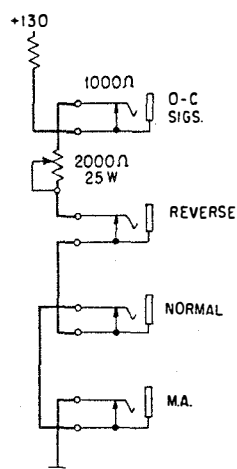

Fig. 11 - Dummy Loop
4.12 Connect a source of undistorted test signals to a dummy loop. The 1A and 100A test sets provide 5-element 60-, 75-, or 100-speed signals, and the 1B set provides 8-element 100-speed signals. Use the 2P31A cord. See Fig. 11 and 17. Insert the 359A plug (shorter one) into the INPUT jack of the 164C3 or 164C4 set and then insert the 347A plug into the NORMAL jack of the dummy circuit. The polarity of the current in Fig. 11 is such that the NOR-REV switch should be set at NOR. If other circuit arrangements are used, set the NOR-REV switch on NOR if the voltage on the tip of the 359A